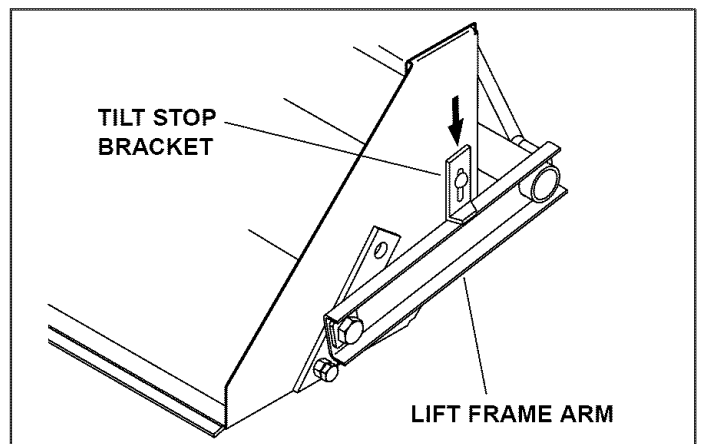

FIGURE 24
- Raise the scoop until it locks in the TRANSPORT position. Push the tilt stop brackets on each side of the bucket down against the lift frame arms, and tighten the nuts. See figure 24.